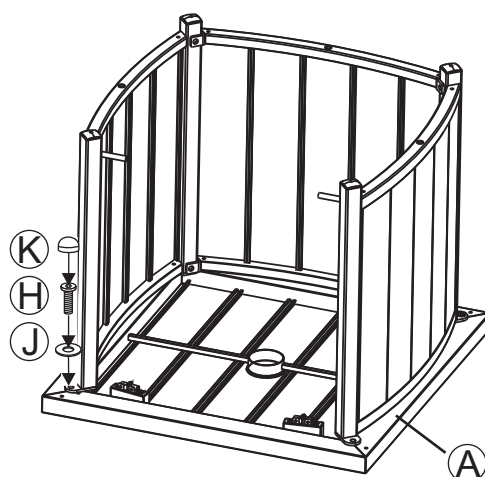

Figure 2
- 2 Place the table top upside down on a flat, non-abrasive surface. Attach the back & side panels to the table top by using four 1/4"x20 mm bolts and washers as shown in **Figure 2**. Guide the bolts through the holes in the panels, into the pre-drilled holes in the table top. **Hand tighten only 2-3 turns.**